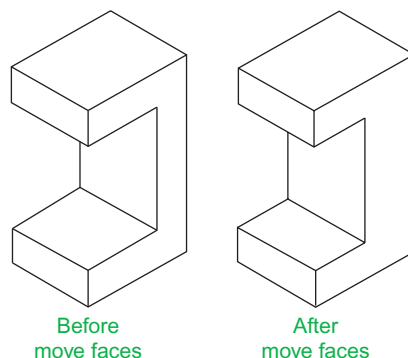

Fig. 18.8 Third example – Solid, Move Faces tool
### Third example – Move Faces tool (Fig. 18.8)
1. Construct the 3D solid drawing shown in the left-hand drawing of Fig. 18.8 from three boxes which have been united using the **Union** tool.
And the *picked* face is moved – right-hand drawing of Fig. 18.8.